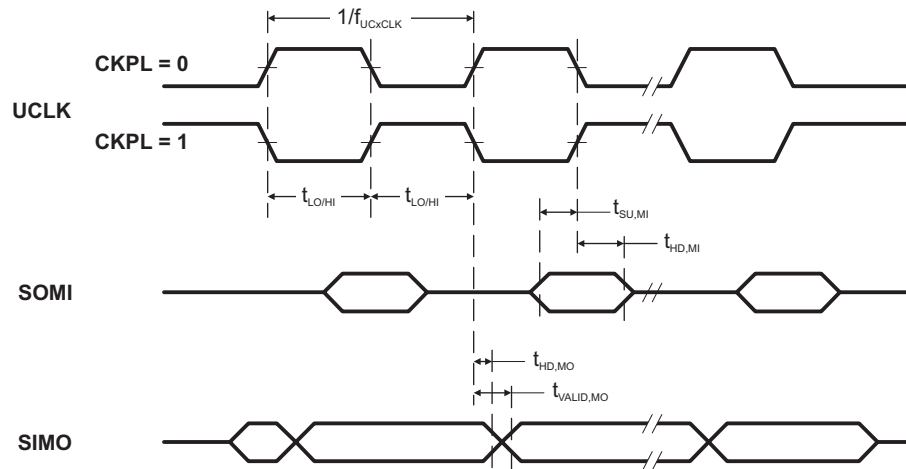
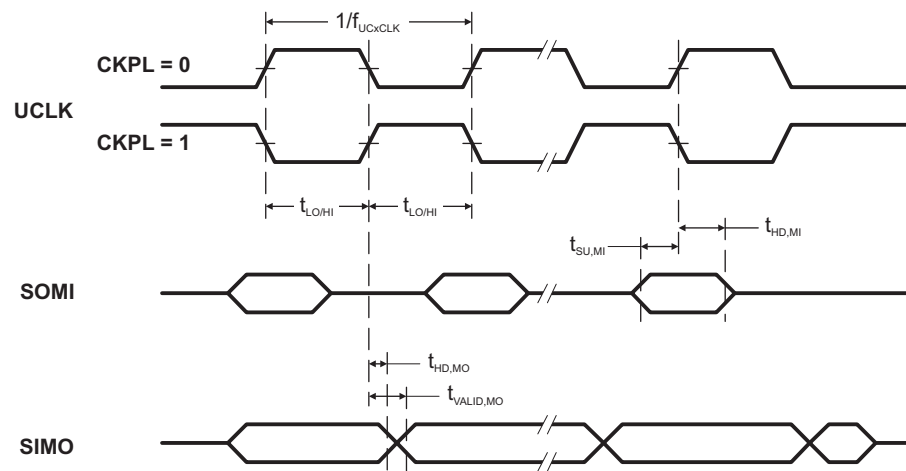

Figure 15. SPI Master Mode, CKPH = 0
Figure 16. SPI Master Mode, CKPH = 1
(see Note ⁽¹⁾, Figure 15 and Figure 16)
- (2) Specifies the time to drive the next valid data to the SIMO output after the output changing UCLK clock edge. See the timing diagrams in Figure 15 and Figure 16.
- (3) Specifies how long data on the SIMO output is valid after the output changing UCLK clock edge. Negative values indicate that the data on the SIMO output can become invalid before the output changing clock edge observed on UCLK. See the timing diagrams in Figure 15 and Figure 16.
(1) $f_{UCXCLK} = 1/2t_{LO/HI}$ with $t_{LO/HI} \geq \max(t_{VALID,MO(Master)} + t_{SU,SI(USCI)}, t_{SU,MI(Master)} + t_{VALID,SO(USCI)})$.For the master's parameters $t_{SU,MI(Master)}$ and $t_{VALID,MO(Master)}$ see the SPI parameters of the attached master.(2) Specifies the time to drive the next valid data to the SOMI output after the output changing UCLK clock edge. See the timing diagrams in Figure 15 and Figure 16.(3) Specifies how long data on the SOMI output is valid after the output changing UCLK clock edge. See the timing diagrams in Figure 15 and Figure 16.